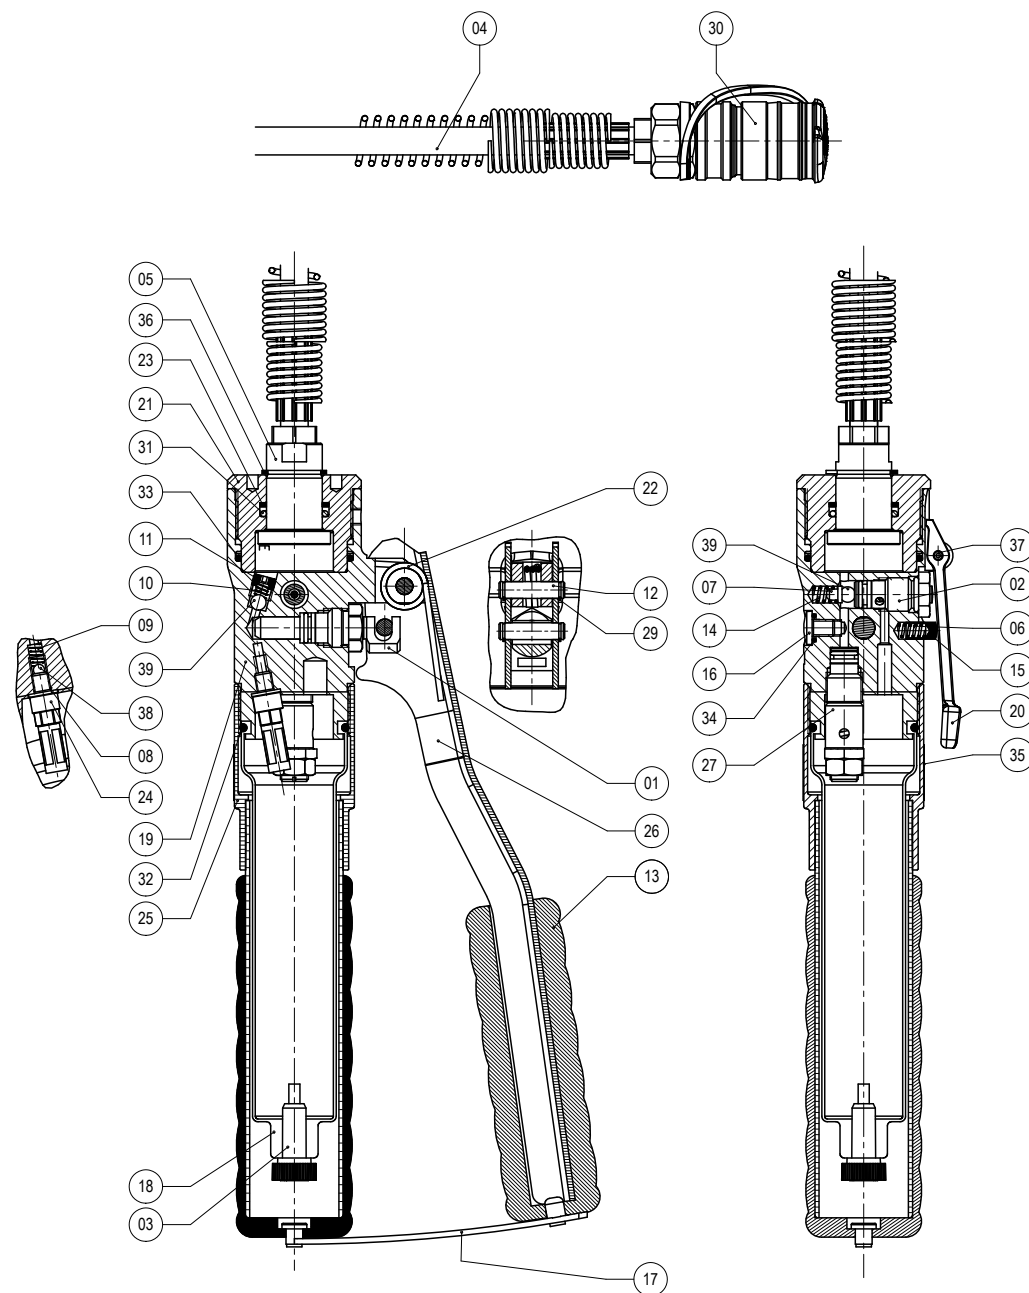

FIG. 10
5. PARTS LIST (PUMP UNIT) (Ref. to Fig. 10)